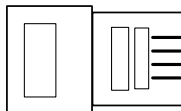

Figure 4.4. Headset connector scheme
4.2.2. The Plantronics TA06 headset (optional) is used to listen to a channel and to talk into a channel. Scheme of the headset connector is shown on Figure 4.4.